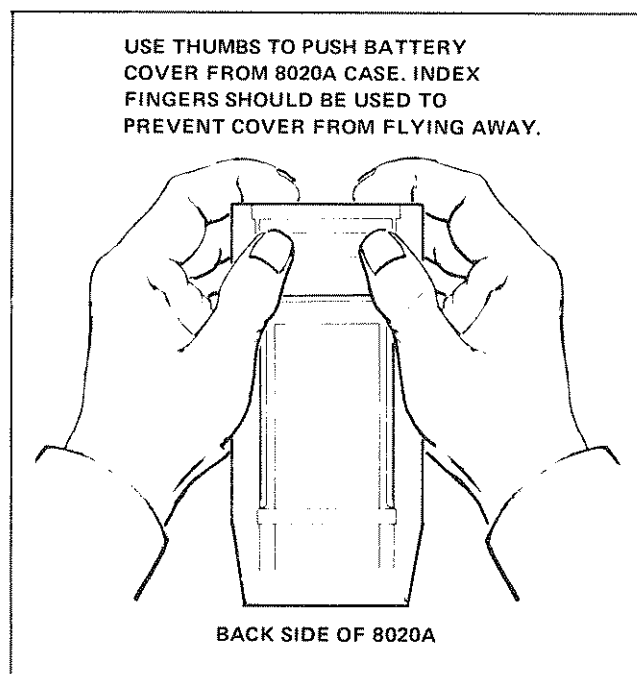

Figure 2-1. Recommended Method of Removing Battery Cover
- c. Open the battery compartment on the bottom of the 8020A using the method shown in Figure 2-1.
- Open the battery compartment on the bottom of the 8020A using the method shown in Figure 2-1.